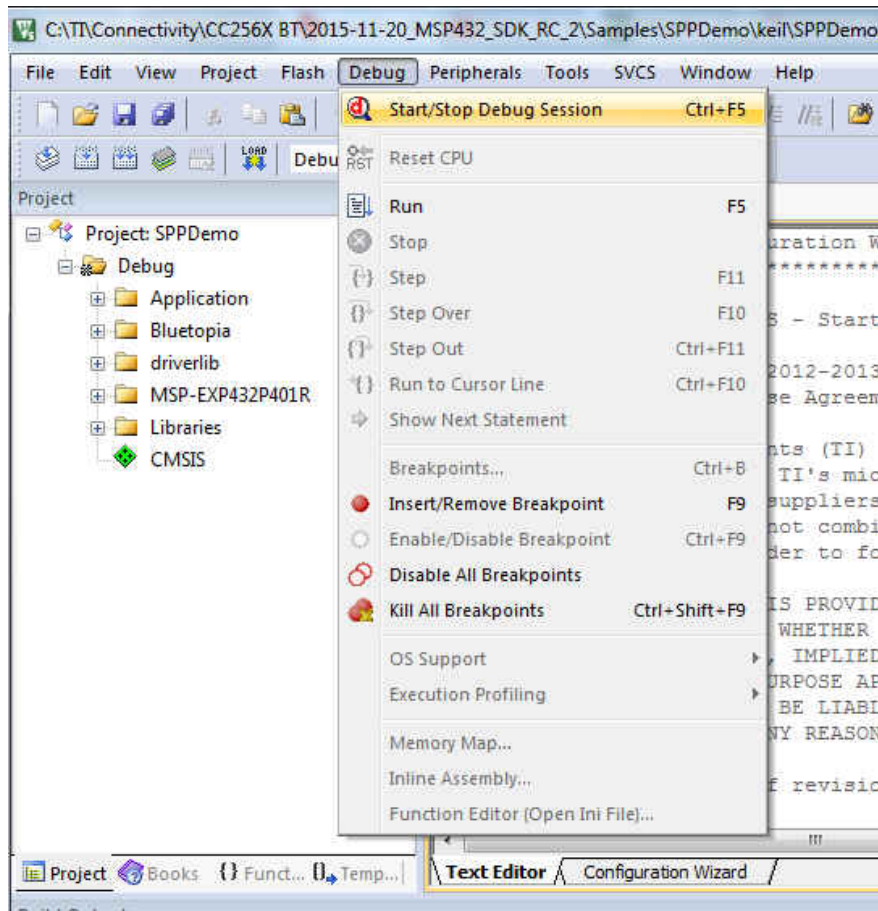

Figure 6-11. Start/Stop Debug Session
- a. Select *Start/Stop Debug Session* to start loading the profile on the MSP432 device (see Figure 6-11).